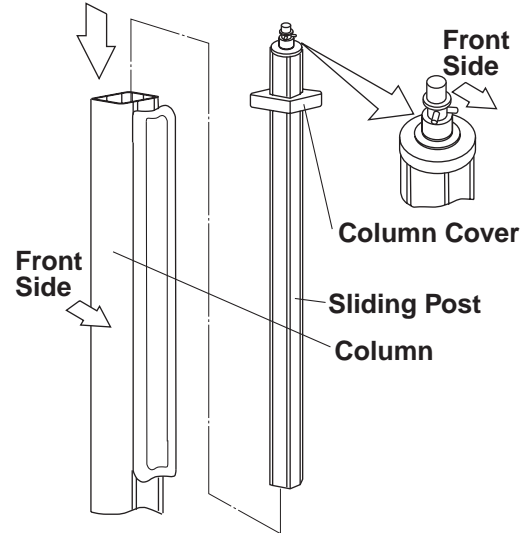

Fig.3-14 Setting Sliding Post
2. Insert the sliding post with column cover into the column. The direction of sliding post is shown in Fig.3-14. (Fig.3-14)